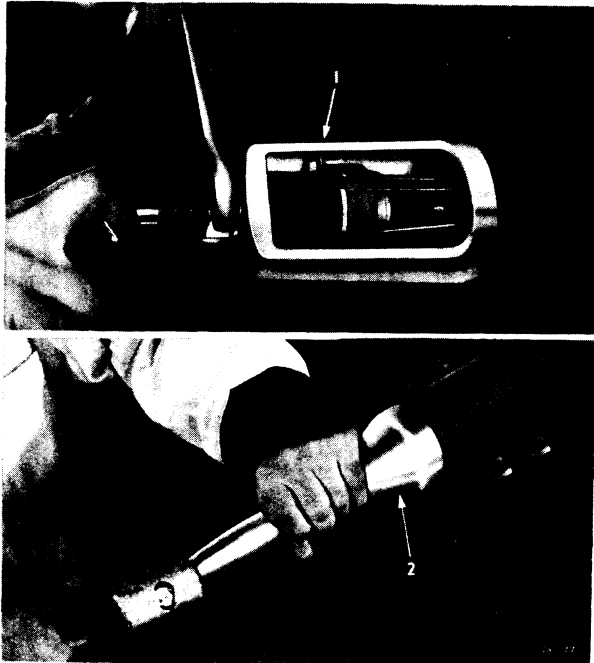

Fig. 8—Removing and Installing Oil Seal
- (7) Install transmission extension shaft bearing and oil seals.
- (8) When installing new leather oil seals, make certain that the leather is in good condition—soft and pliable. New oil seals should be soaked in thin oil for about 30 minutes. Leather should be worked by rolling seal with smooth bar before installing. Oil seal should be installed in case with drift, Tool C-579, as shown in Fig. 8.
- (9) Press seal in $\frac{1}{2}$ inch and permit approximately $\frac{1}{4}$ inch of seal to protrude from case. This is important because a seal can be driven in too far. This may result in damage to the seal itself. It may also cause leakage
- (1) Remove propeller shaft, nut, flat washer, and lockwasher from rear end of transmission mainshaft.
- (2) Pull off universal joint companion flange and brake drum assembly. Use special puller, Tool C-452. **Never drive flange off with hammer.**
- (3) Insert fingers of special oil seal puller, Tool C-497, behind oil seal. A finger will fit in every other spline of mainshaft. Pull the oil seal by tightening puller nut. (Fig. 8.)